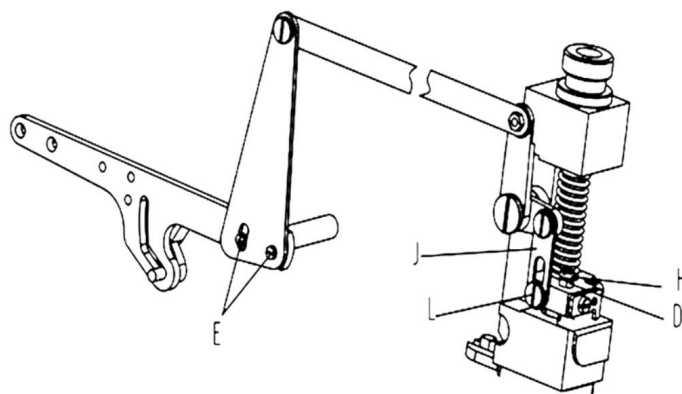

图34 (Fig.34)
- 2.间隙 0.5mm 的调整: 如图(图 34)所示,调整螺钉(H),
使上下滚轮的间隙为 0.5mm 再锁紧螺帽(D)(图 34)稍放松螺钉(K)并调整连杆(J)，使螺钉(L)与连杆(J)的长圆孔下方的间隙为 0.5mm，再锁紧螺钉(K)。
2.Gap referring (Fig.34):
Loosen nut (D) and turn screw (H) to reach 0.5mm gap between top and lower rollers .Then tighten screw nut (D) .(Fig34) release screws (K) slightly and adjust connector (J) to keep the space between the bottom edge of screw (L) and the edge of slot on connector (J) at 0.5mm.Then tighten screw (K)。